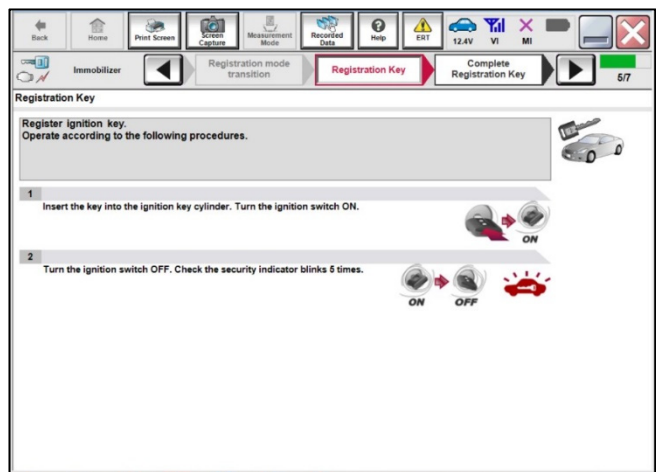
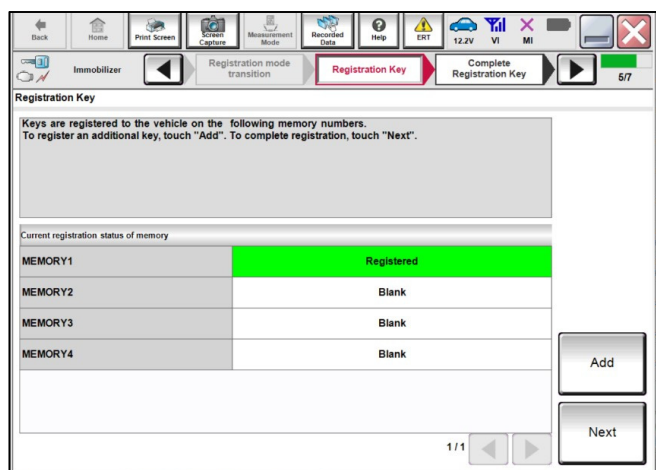

Figure 7
Figure 8
15. Follow the screen prompts to navigate to the screen shown in Figure 7.
17. Verify the Red Security lamp in the combination meter blinks five (5) times.
18. Once the key is registered, the screen shown in Figure 8 will be displayed.